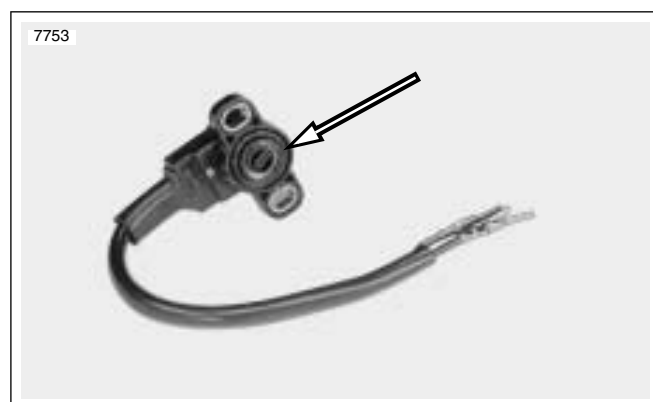

Figure 4-21. Throttle Position Sensor with O-ring
1. See Figure 4-21. Obtain new throttle position sensor. If old sensor is used, inspect o-ring for cuts, tears or signs of deterioration. Replace o-ring if necessary.